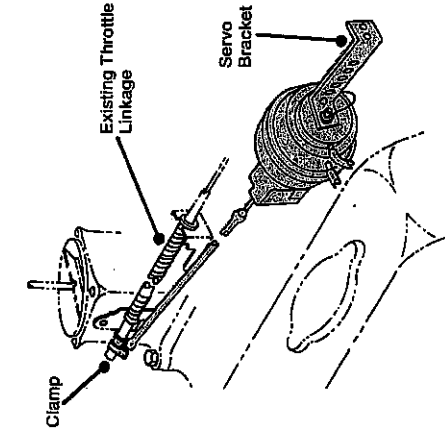

**Figure 6.**
- (c) Place magnets on the centerline that you have drawn on the shaft directly opposite each other (Fig. 6).
tape (Fig. 6), two wraps minimum, over the magnets (Fig. 6), wrapping it in the direction opposite drive shaft rotation.